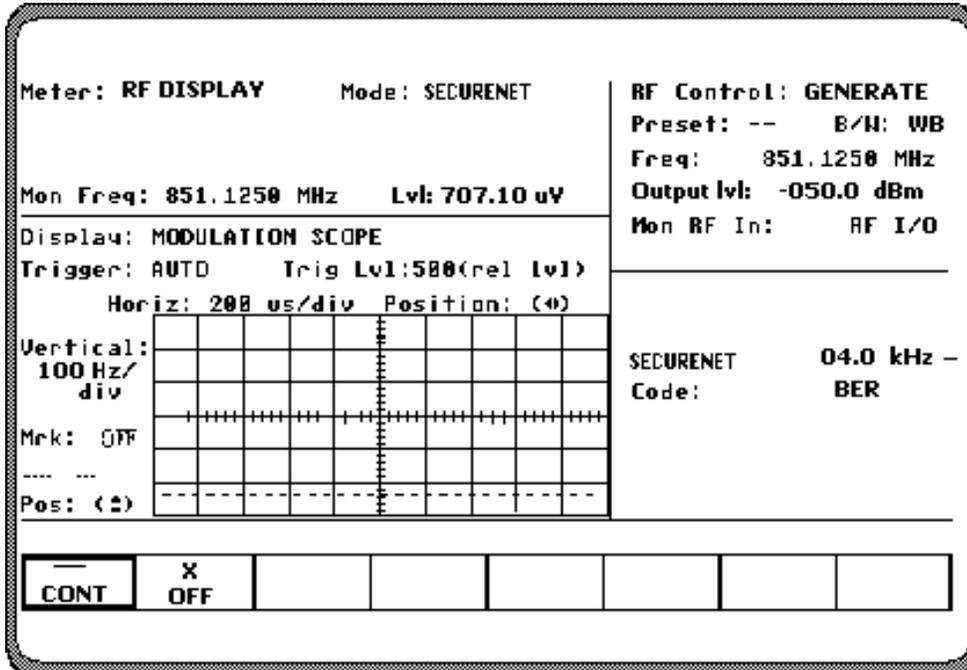

Figure 14-1. Radio (BER Test Mode) Audio Zone
2. Select the SECURENET BER Test mode by placing the cursor in the "Code:" field in the Audio Zone (figure 14-1). With the cursor in the "Code:" field, select the BER softkey.